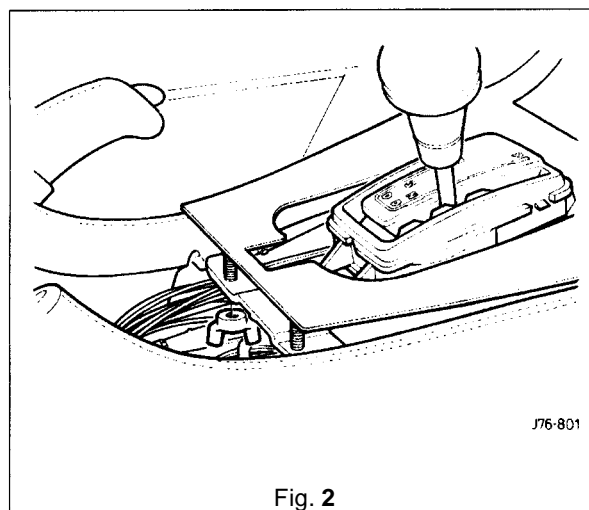

Fig. 2
- Undo and remove the veneer panel wing nuts. See Fig. 2.
- Remove the console rear extension finisher, see sub-section 13.3.5 and Fig. 2.